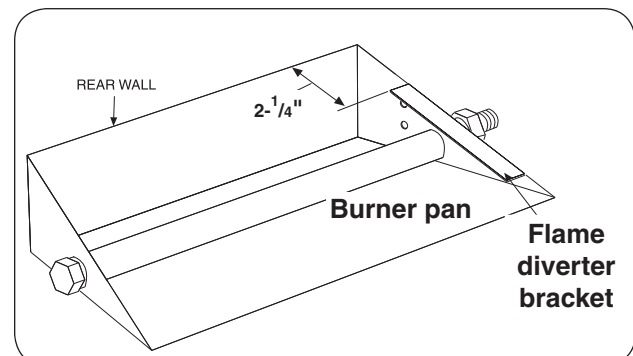

Fig. 5-3 Install diverter bracket (if applicable)
1. Place the flame diverter bracket over the side edge of the burner pan, near the location the safety control system pilot bracket will be attached. It should be placed **approximately 2-1/4"** from the rear wall of the burner pan (see Fig. 5-3).